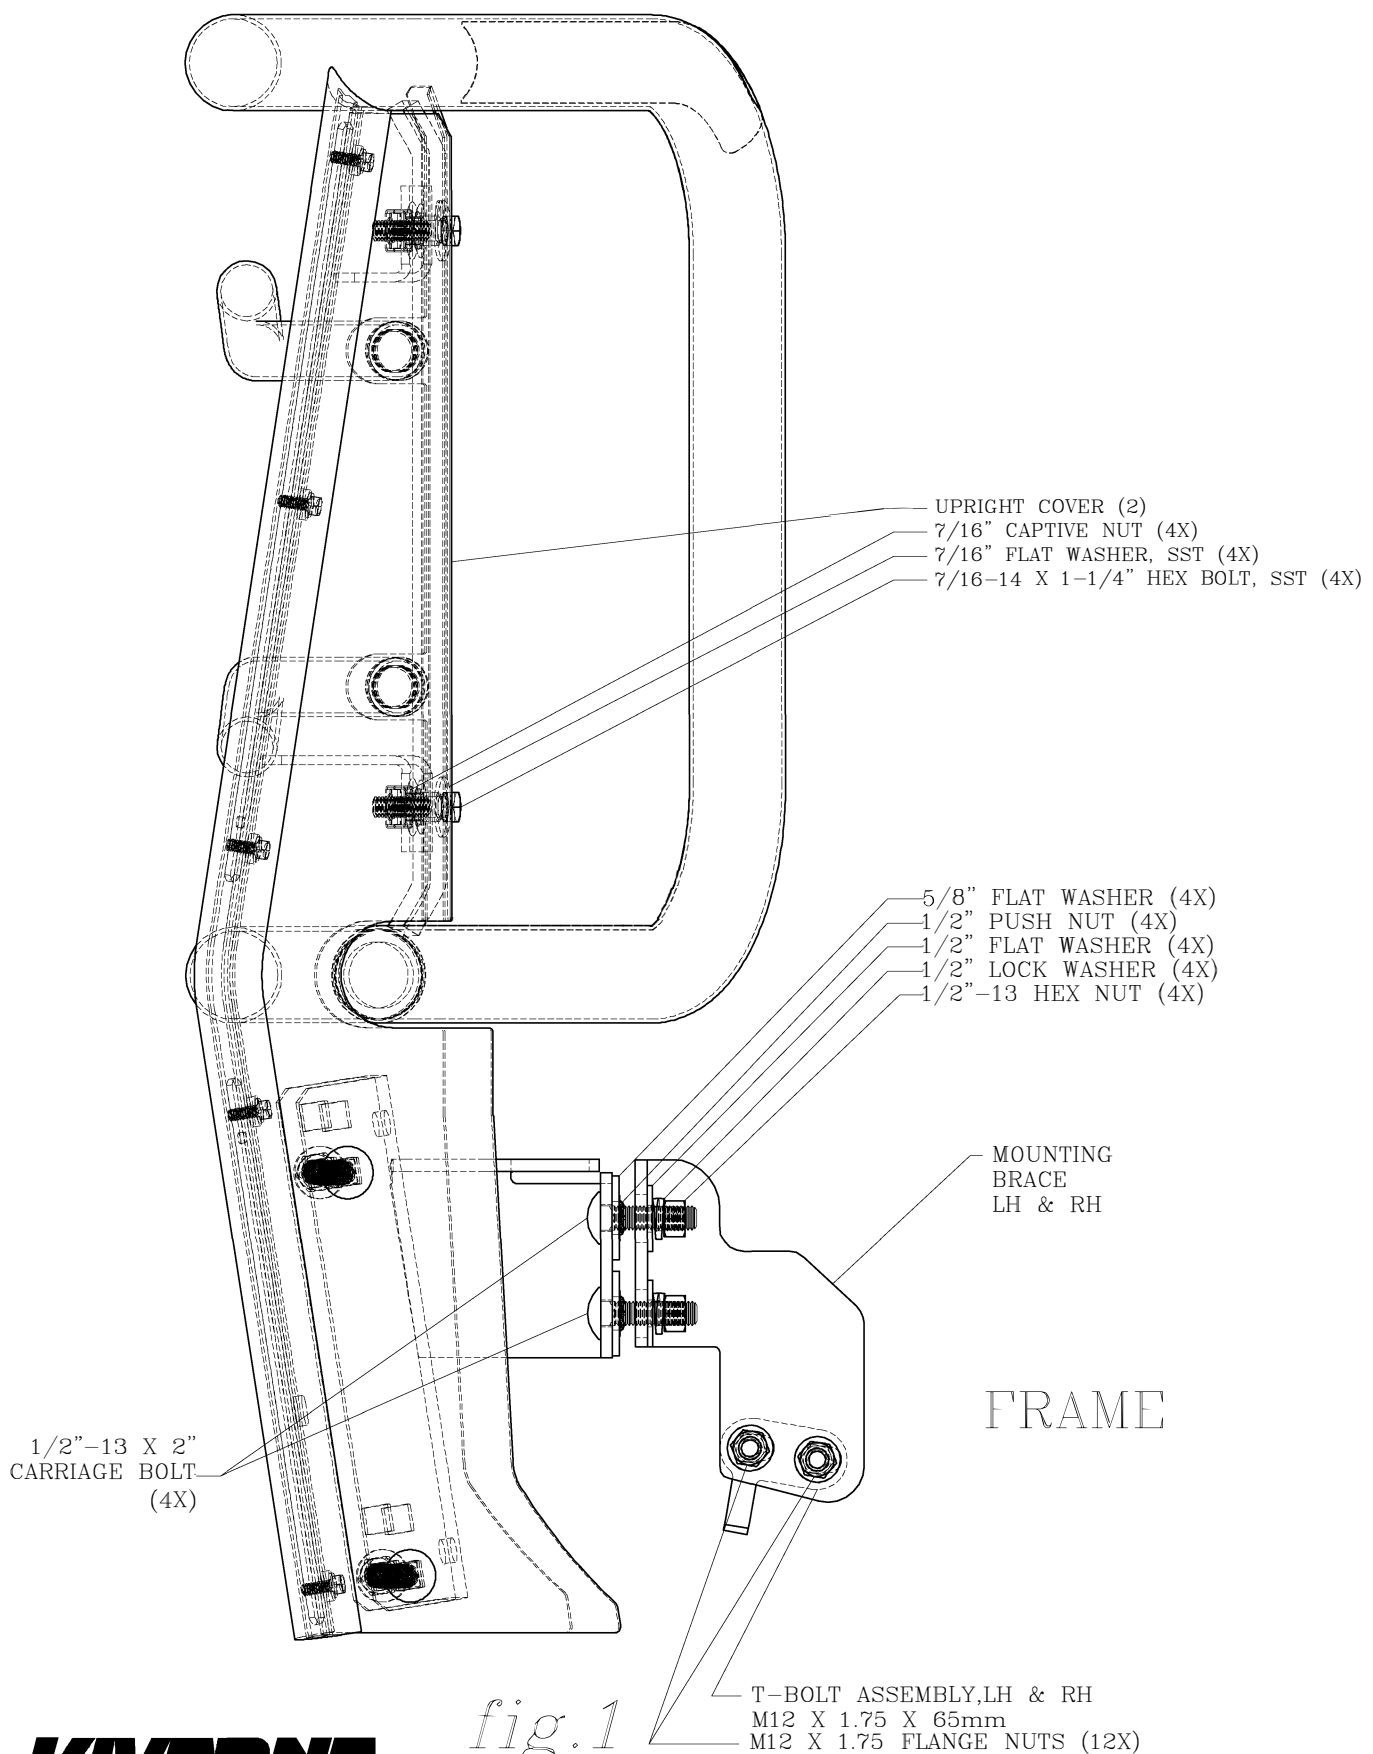

fig.1
7. INSERT THE ASSEMBLED BRACKET INTO THE HOLES IN THE BUMPER AND FASTEN WITH 1/2" FLAT WASHERS (ITEM #24), 1/2" LOCK WASHERS (ITEM #21) AND 1/2" HEX NUTS (ITEM #18) AS SHOWN IN FIG. 1 & 2. HAND TIGHTEN ONLY AT THIS TIME.